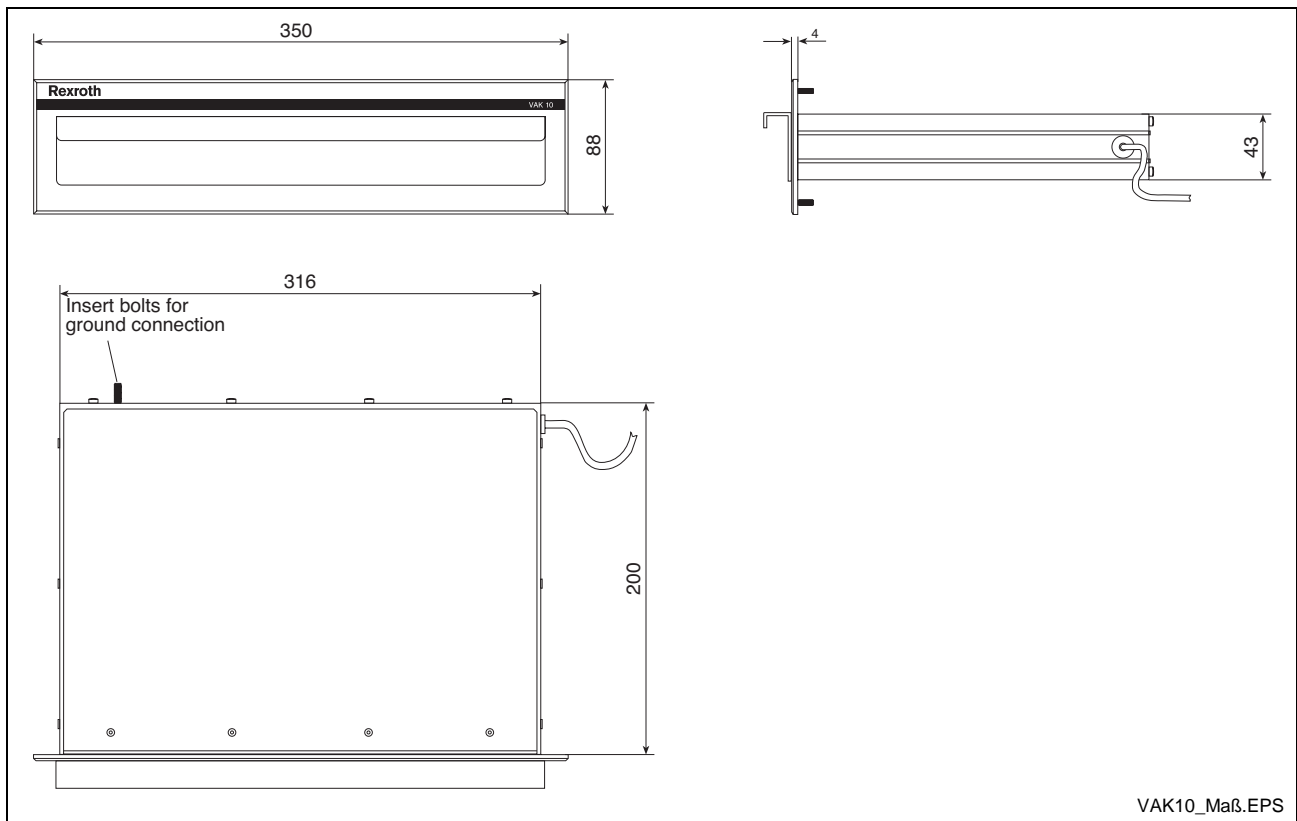

Fig. 7-2: Housing dimensions VAK 10.1
- Fig. 7-2: Housing dimensions VAK 10.1 7-2